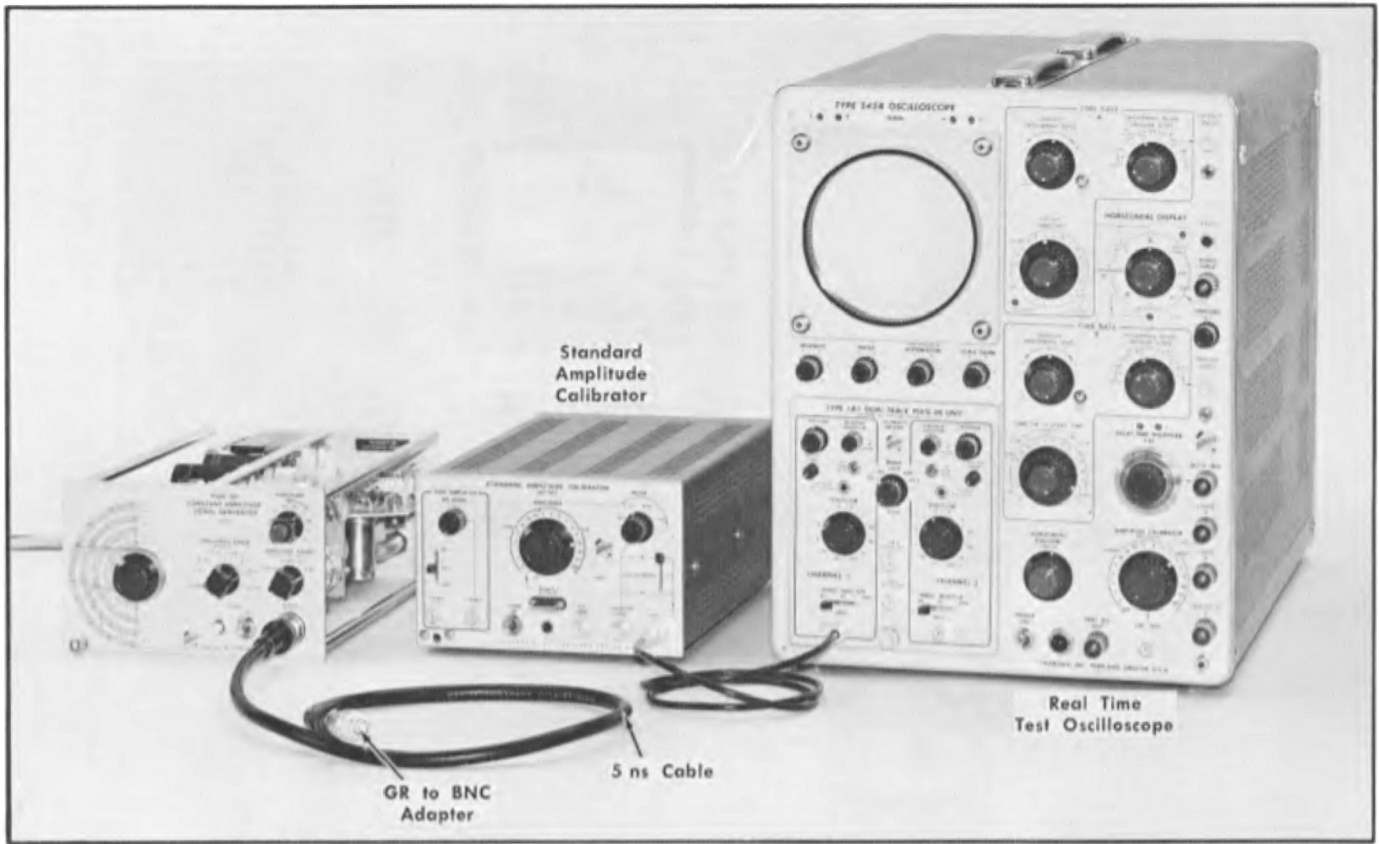

Fig. 6-11. Test equipment setup for steps 7 and 9.
- a. Test equipment setup is shown in Fig. 6-11.
a. Test equipment setup is shown in Fig. 6-11.